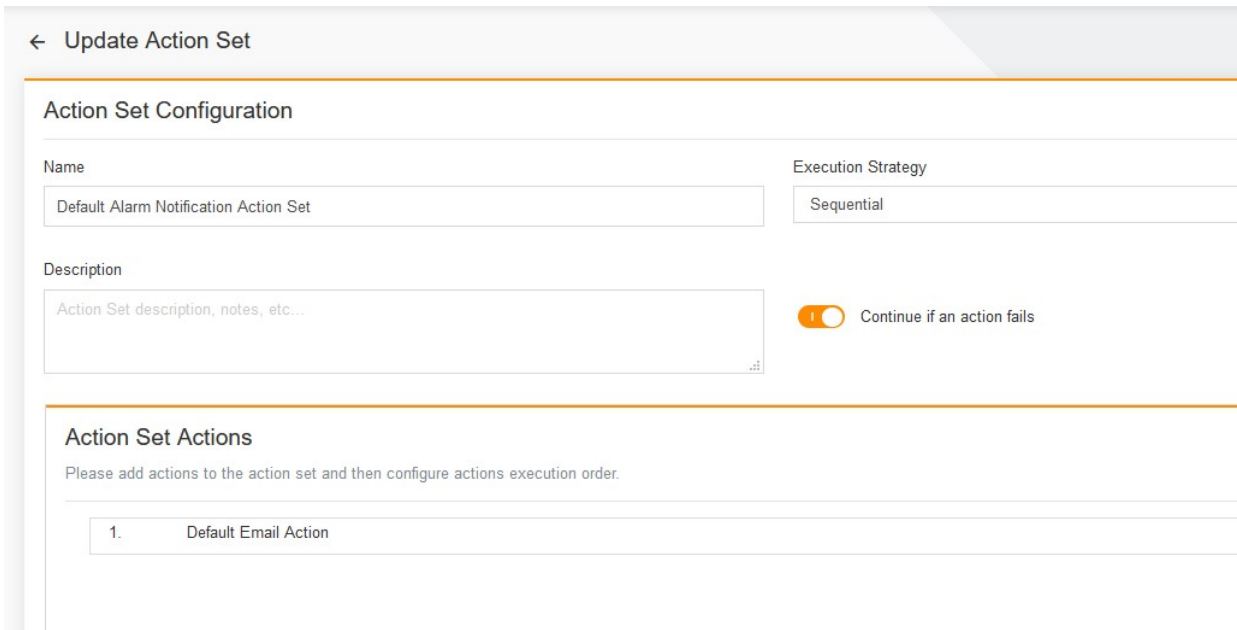

Figure 16-23 Edit page
1. On the **Action Sets** page, click in the row of the action set to be edited. In the pop-up shortcut menu, select **EDIT** to switch to the **Update Action Set** page, as shown in Figure 16-23.